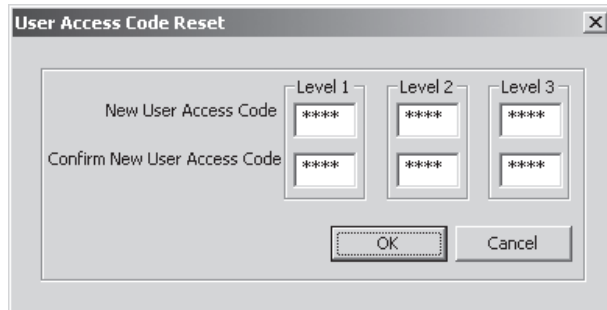

Figure 4-3 User Access Codes Reset Dialog Screen
1. From the ISScom Main Screen menu select **Tools/System Access Code/User Access**. ISScom will display the User Access Code Reset dialog screen (Figure 4-3).